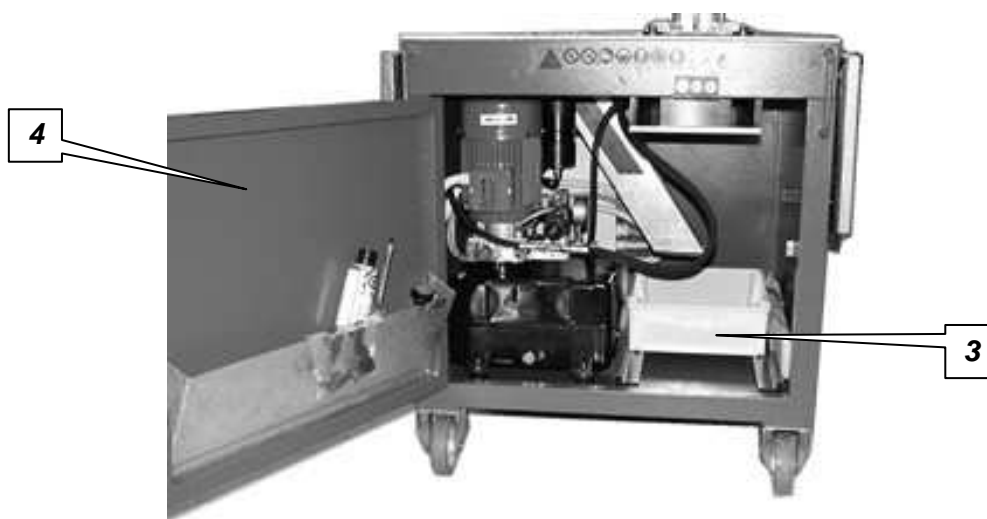

*Fig. 5.3 –Lubrication points at the bending station*
- ✓ Lubricate the mechanic components of the bending station **1** and cutting station **2** (see next details) (fig. 5.1, fig. 5.2 e fig. 5.3).
*All the lubrication operations can be performed with the bending station blocked in horizontal position. In the photo of fig. 5.3 the bending station, in some cases, is shown inclined specifically to put in evidence the lubrication point.*